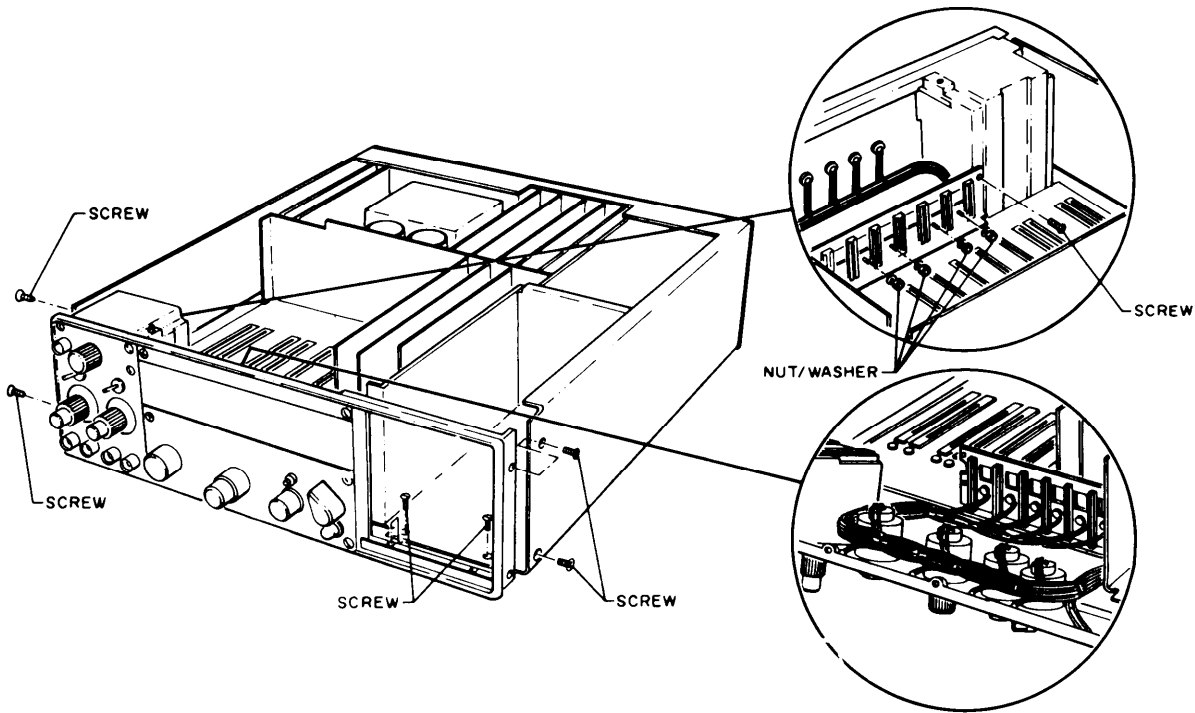

Figure 5-13. Counter, Disassembly of Front Section
1. ACCESS TO FUNCTION SWITCH A1S4, TIME BASE SWITCH A1S3, STD FREQ OUT SWITCH A1S2, AND POWER SWITCH A1S1. — These parts are mounted on the front panel, and become accessible when the front-panel casting is detached from the counter and is supported only by the wire harness. Refer to figure 5-13 and proceed as follows: